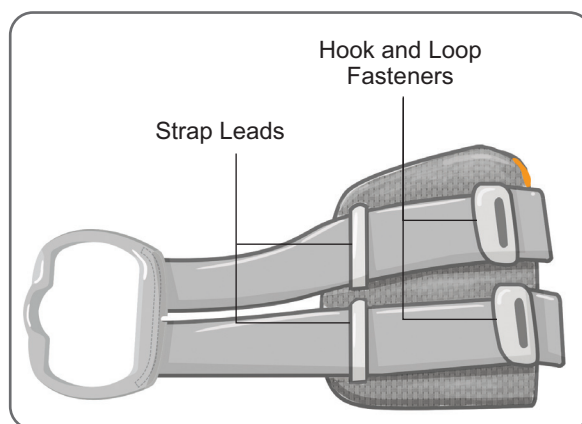

Figure 6-2: Lower Leg Cuff Strap attached to the Regular Lower Leg Cuff
- Slide the strap through the strap leads and buckles on the Lower Leg Cuff. Make sure the hook and loop fasteners face away from the Lower Leg Cuff. Press on the hook and loop fasteners to secure the strap. See Figure 6-2.